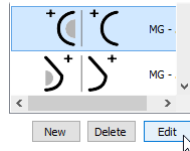

Figure 437 – Editing a selected hanging protocol
- Select the hanging protocol in the list of all protocols on the **Mammography workflow** tab of the **Options** dialog, and click the **Edit** button (see Figure 437).